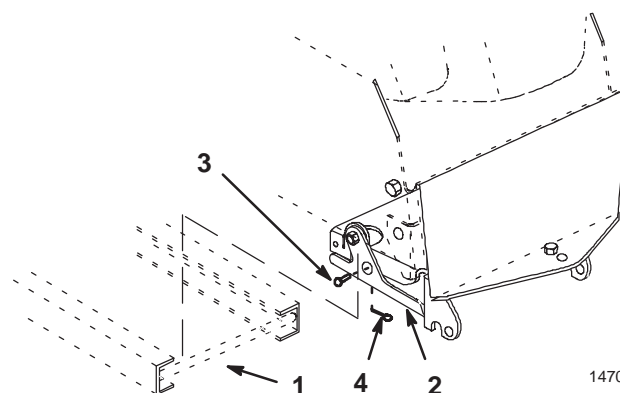

**Figure 9**
6. Install steering spindle stops in front of the rear tab on front wheel spindles (Fig. 9). Align so stops contact the axle during tight turns and wheels do not contact the frame. Secure with 5/16 x 3/4" self tapping bolt (Fig. 9).